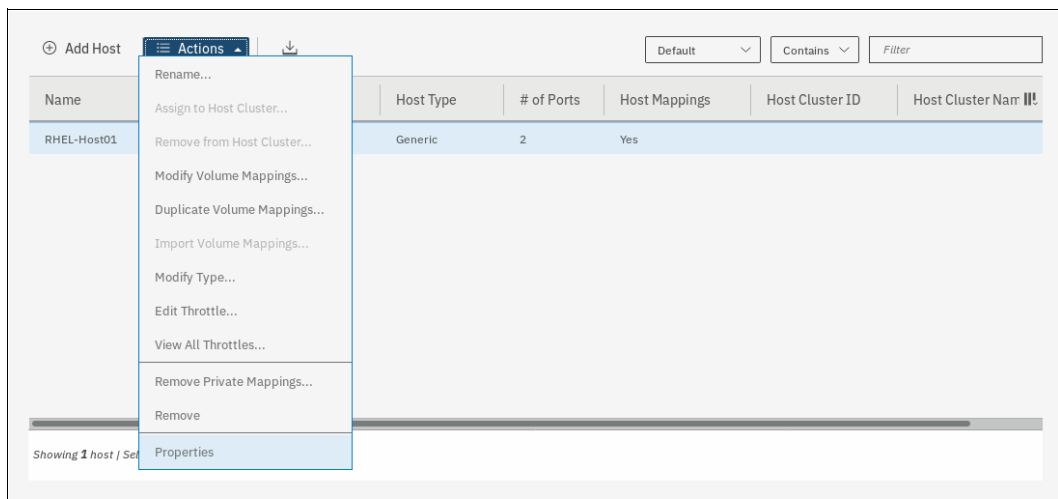

Figure 8-21 Opening host properties
2. From the Actions menu, click **Properties**. You can also highlight the host and right-click to access the **Actions** menu, as shown in Figure 8-21.